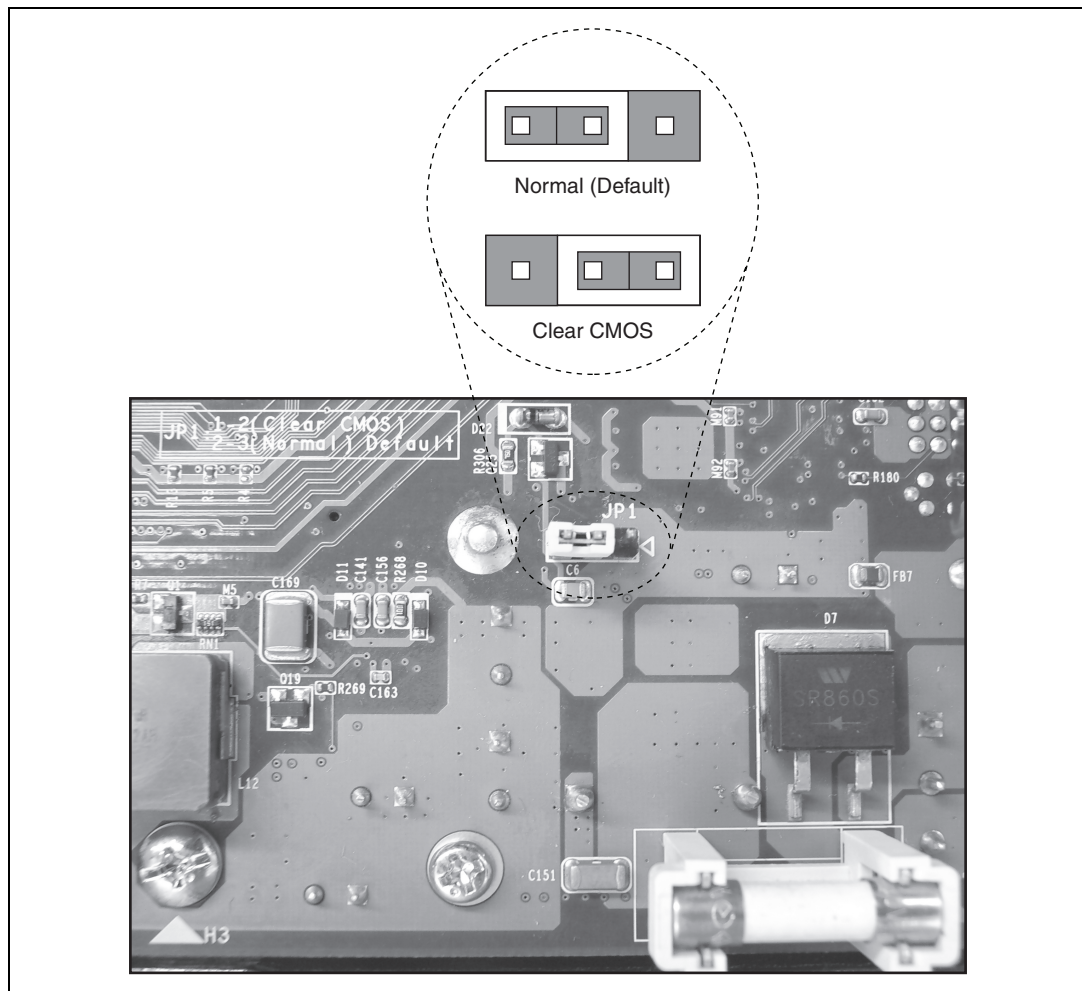

Figure 4-1. Clearing the CMOS Contents
5. Locate the jumper for clearing the CMOS contents, as shown in Figure 4-1. (For clarity, the heat spreader is not shown in the figure.)
6. Move the jumper from pins 2–3 to pins 1–2 as shown in Figure 4-1.